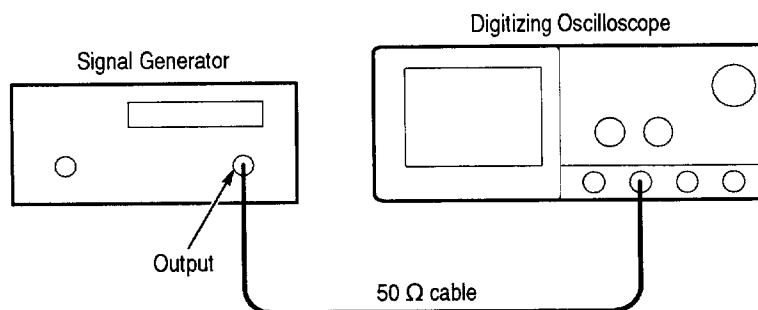

Figure 1-31: 60 Hz Rejection test hookup
- Connect the output of the signal generator to the CH2 input through a 50  $\Omega$  cable. See Figure 1-31.